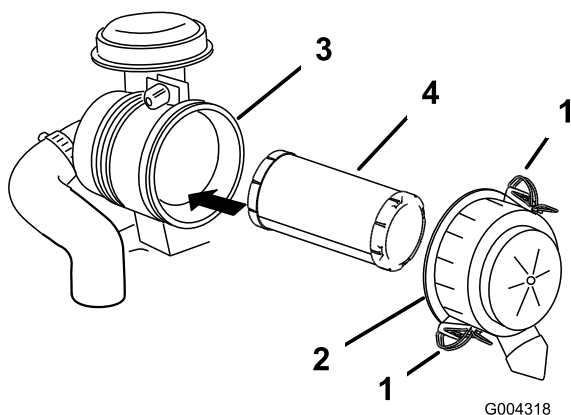

Figure 31
3. Release the latches on the air cleaner and pull the air cleaner cover off of the air cleaner body (Figure 31).
5. Gently slide the air filter out of the air cleaner body (Figure 31). Avoid knocking the filter into the side of the body.
2. Carefully slide the air filter into the body (Figure 31).
3. Install the air cleaner cover with the side indicated as **UP** facing up and secure the latches (Figure 31).